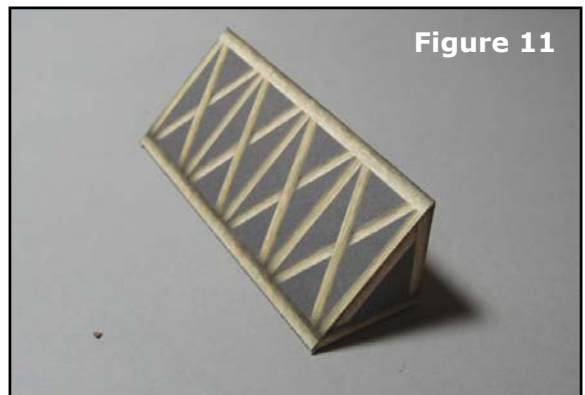

Figure 11
3. Apply liquid glue to the tabs on the end-pieces as shown and close the ends like the lid of a box (Figure 11).